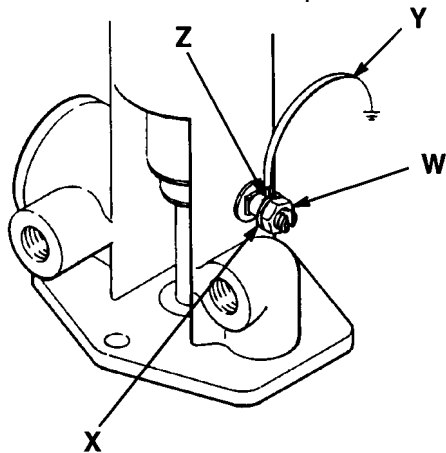

Figure 1
1. *Pump*: use a ground wire and clamp. See Figure 1. Loosen the grounding lug locknut (W) and washer (X). Insert one end of the ground wire (Y) into the slot in lug (Z) and tighten the locknut securely. Connect the other end of the wire to a true earth ground. Order Part No. 237-569 Ground Wire and Clamp.